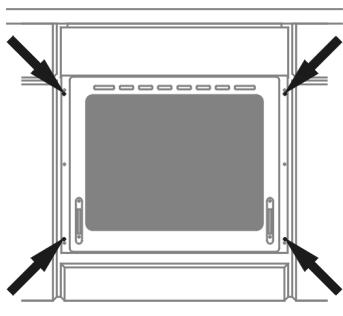

Fig.4
4. Carefully insert in the oven into previously prepared opening in furniture unit (cabinet), protect against sliding out using four screws in the locations shown in Figure 4.